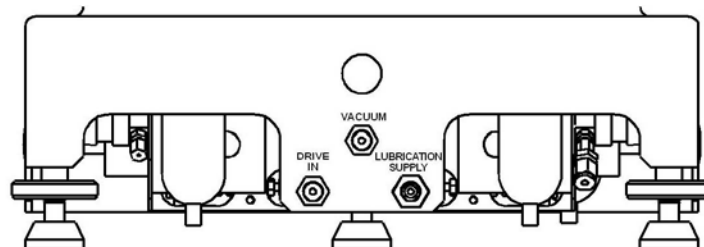

Figure 45. FPG8601 bubbler and filter
- ❶ Go to the back of the ADCS-601 Reference Bench to observe the back of the FPG8601 Platform (see Figure 45).
- ❷ Observe the water level in the bubbler (clear plastic reservoir on the **right** side looking at the FPG8601 from the rear). The water level should be well over the bottom of the black gas delivery tube so that the gas coming through the tube bubbles through the water.
- ❸ If the water level in the bubbler is low, refill the bubbler (see procedure immediately below).
In Figure 45, the coalescing filter is on the left and the bubbler is on the right. This view is looking at the back of the FPG8601.